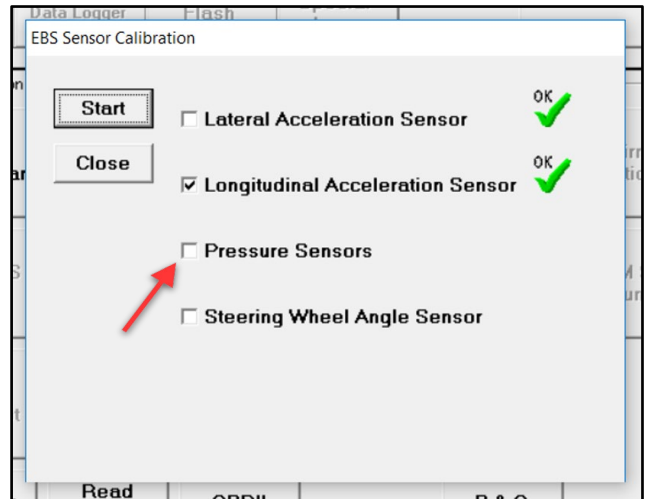

Figure 16
29. Click "Pressure Sensors" (refer to Figure 16).